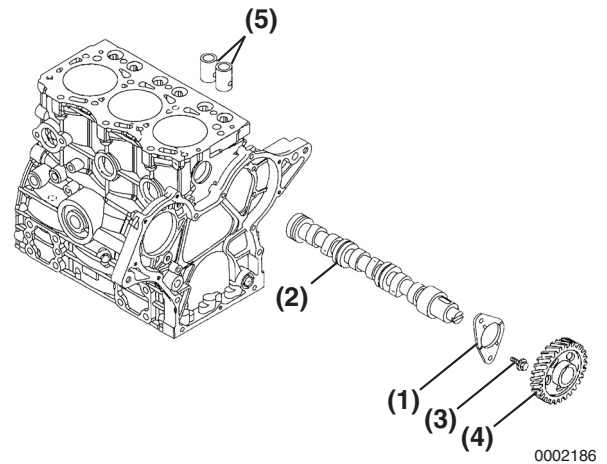

Figure 4-2-48
3. Extract the tappets (**Figure 4-2-48, (5)**) through the top of the cylinder block. Mark the tappets so they can be reinstalled in the same location.
4. Slowly pull the camshaft (**Figure 4-2-48, (2)**) assembly out of the engine being careful not to damage the front camshaft bushing.
5. Remove the camshaft gear (**Figure 4-2-48, (4)**) only if the gear or camshaft require replacement. Use a knife-edge puller and a press to remove the gear. The gear is a shrink-fit and will need to be heated to 180° - 200°C to remove.
2. Remove two bolts (**Figure 4-2-48, (3)**) retaining the camshaft thrust plate (**Figure 4-2-48, (1)**).